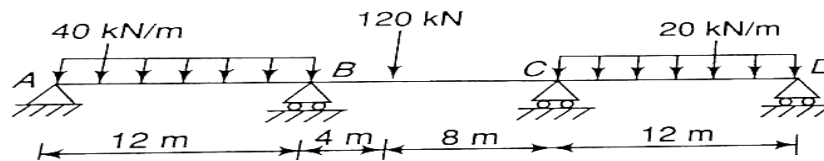

Figure 4.3
3. Using flexibility matrix method for the continuous beam shown in figure 4.3 and draw the bending moment diagram, EI is Constant.